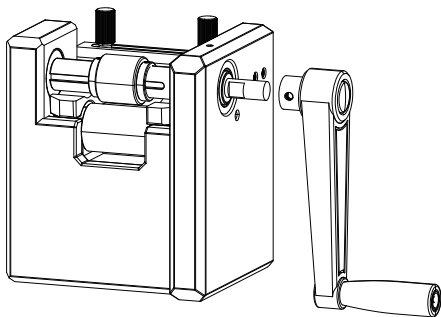

Fig.2
- 2.As shown in Fig. 2, align the threaded hole of the handle with the notch on the main shaft, then insert it into place.